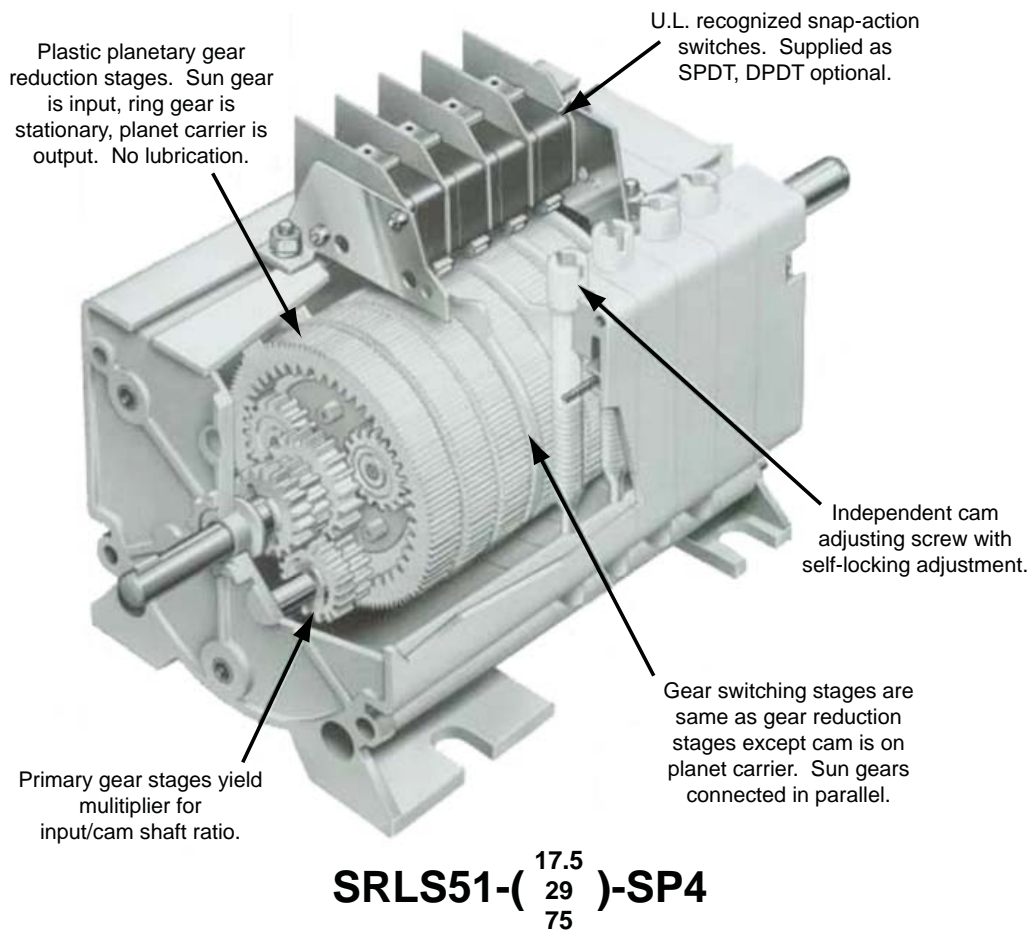

Figure 11.
(1) DESCRIPTION: The rotary limit switch is designed to accurately control the end limits of the door travel provided by the electric operator as well as the activation point and duration of the creep mode. The limit switch input shaft drives a set of planetary gears which in turn drives a set of nylon cams (See Figure 11). Each precision limit switch unit is actuated by its individual nylon cam. The cam rotate as the operator travels the door back and forth. The cam contact the electrical snap switches to either stop the travel of the operator or initiate the creep modes. The limit switch has 4 switches.